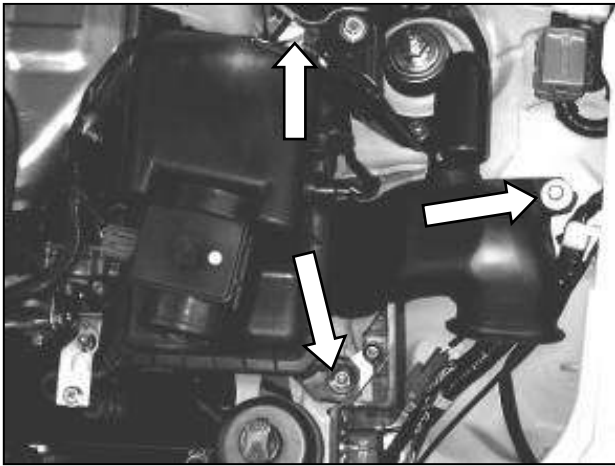

Fig. 2
- e. Remove the air filter assembly by removing the 3 bolts. (Fig. 2)